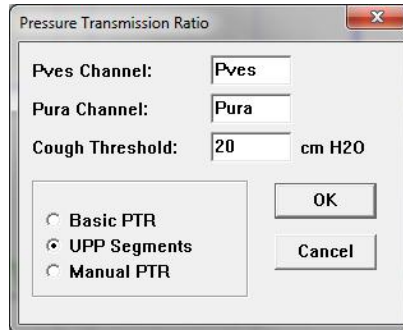

Figure 136: Pressure Transmission window
1. Click **Info > UPP** and select Pressure Transmission to launch the Pressure Transmission window (Figure 136).
1. Click **Info > UPP** and select **Pressure Transmission** to launch the **Pressure Transmission** window (Figure 136).